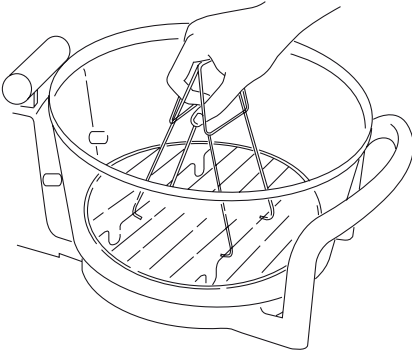

Fig.5
1. Place either the low or the dual rack inside the glass bowl of the oven as illustrated in Fig.5.